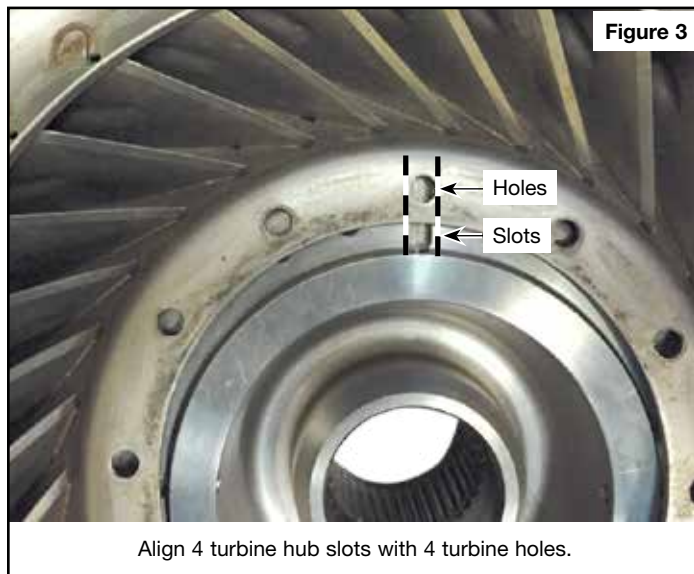

Figure 3
- b. Align four of the turbine holes with four of the turbine hub oil slots (**Figure 3**).